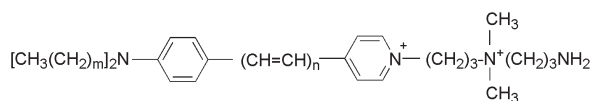
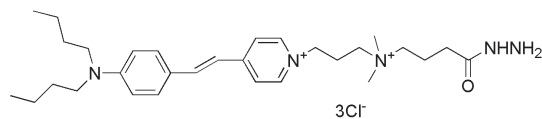

Figure 1. General structure of AM fixable nerve terminal dyes, where m = 0-17 and n = 1 or 3.
Figure 2. Structure of HM1-43 fixable nerve terminal dye.
a. See Figure 1.
Nerve terminal probes are a series of fluorescent cationic styryl dyes developed to follow synaptic activities at neuromuscular junctions or synapses. These dyes typically have a lipophilic tail (two carbon chains) at one end and a highly hydrophilic, cationically charged head group at the other end. These nerve terminal probes were originally called FM® dyes, and are available from Biotium under the trademark names of SynaptoGreen™ and SynaptoRed™. SynaptoGreen™ probes are dyes with a single double bond (n = 1) while SynaptoRed probes are dyes with three double bonds (n = 3). A nerve terminal dye is named as either SynaptoGreen™ or SynaptoRed™ followed by a carbon number designating the length of the lipophilic tail. AM dyes have similar structures, except that they possess an aldehyde-fixable amine on the positively-charged head group (Fig. 1). HM1-43 has a hydrazide group instead of an amine group (Fig. 2), which is more reactive with formaldehyde. Because the hydrazide group is neutral, HM1-43 is more lipophilic than AM1-43.